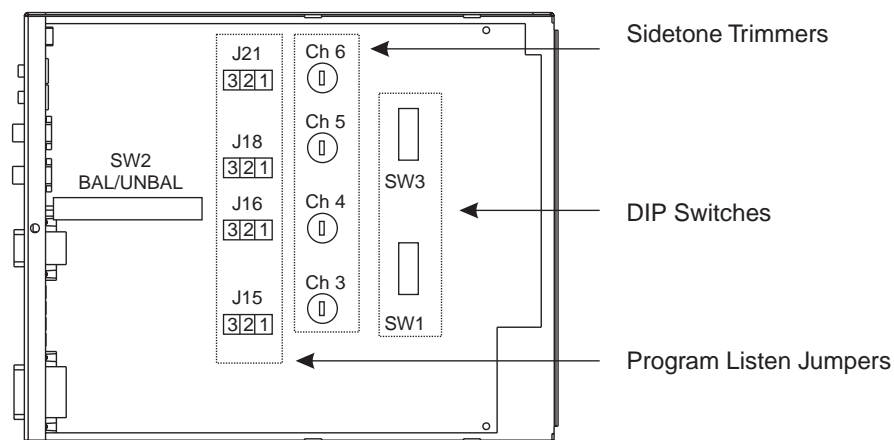

Figure 2. Locations of configuration switches, jumpers, and sidetone controls. (Top cover removed.)
10. Configuration Switches, Jumpers and Sidetone Controls (Figure 2). These let you customize the operation of the ES4000A to match your intercom system requirements. See “Configuration Pre-check”, page 7, for details.
Before making connections, read the configuration notes that follow, and make sure that all switches and jumpers are properly set for your intended usage. Locations of configuration switches and jumpers are shown in Figure 2. Only the DIP switches and jumpers require internal access. If access is required, remove one screw from the top cover and 3 screws from each side.
By default, each program input can be heard by intercom stations on the corresponding intercom channel. (This can be turned on or off for each program input via the US2000A front panel programming. See "Turning the Program Inputs On and Off" in the Operation section of the US2000A User Instructions.) Additionally, all program signals can be heard directly in the US2000A speaker or headset, and each program is output at the corresponding speaker jack on the back of the ES4000A. To disable direct program listening for a program input, reset the appropriate jumper as shown in Table 2. Locations of the jumpers are shown in Figure 2, page 6.